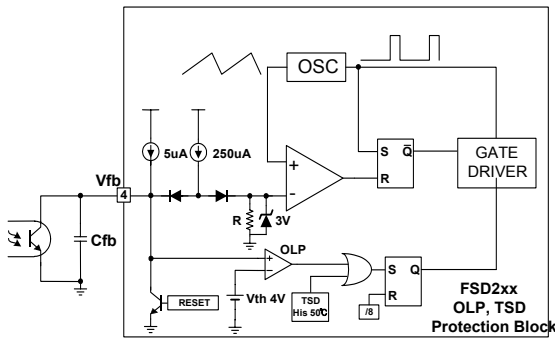

Figure 4. Protection block
**4. Protection Circuit :** The FSD200/210 has 2 self protection functions: over-load protection (OLP) and thermal shutdown (TSD). Because these protection circuits are fully integrated into the IC with no external components, system reliability is improved without cost increase. If either of these functions are triggered, the FPS starts an auto-restart cycle. Once the fault condition occurs, switching is terminated and the MOSFET remains off. This cause Vcc to fall. When Vcc reaches the UVLO stop voltage (6.7:FSD210, 6V:FSD200), the protection is reset and the internal high voltage current source charges the Vcc capacitor. When Vcc reaches the UVLO start voltage (8.7V:FSD210, 7V:FSD200), the device attempts to resume normal operation. If the fault condition is no longer present start up will be successful. If it is still present the cycle is repeated. This is shown in Figure 4.